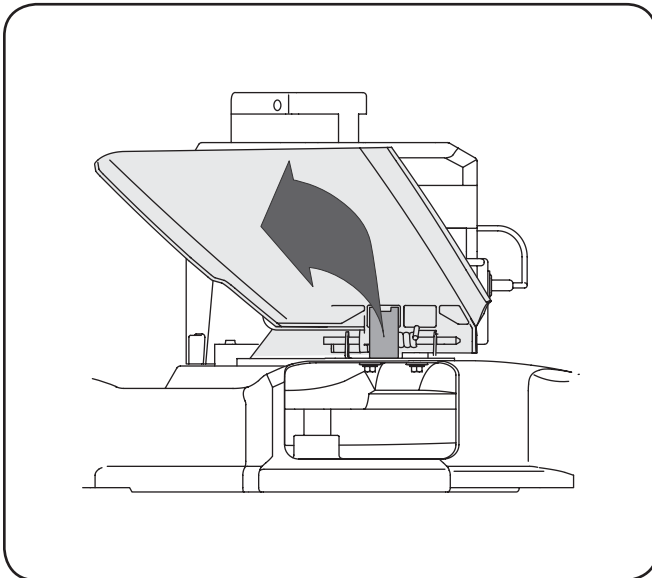

Figure 3-1
- a. Push the chute deflector up towards the engine. Holding the deflector in this position, remove the retainer and discard. See Fig. 3-1.